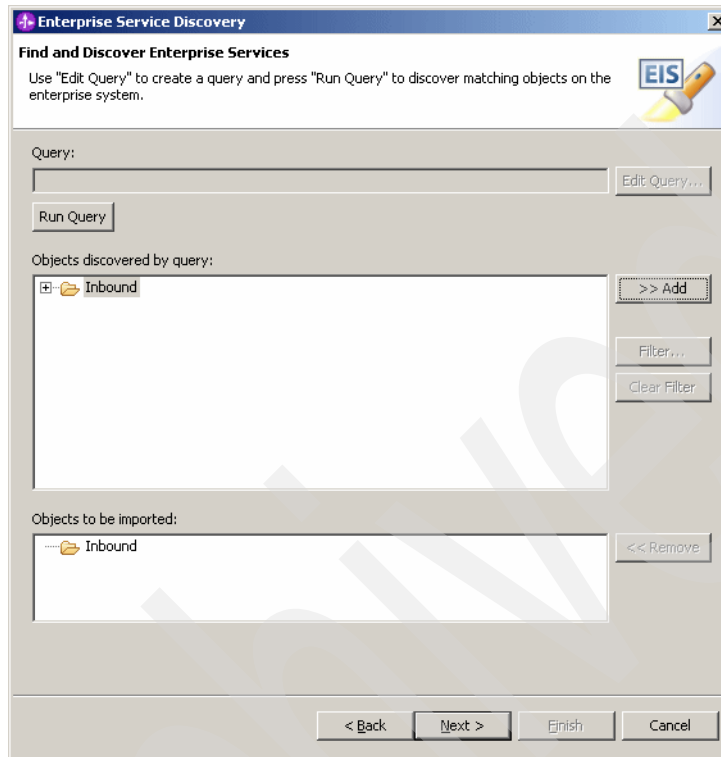

Figure 3-4 Run query
6. Click **Next** (Figure 3-4).